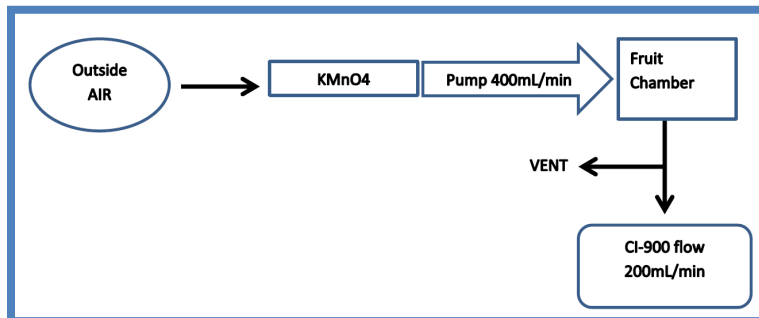

Figure 14: Set-up for fruit chamber using (KMnO₄) to scrub ethylene from the outside air.
2. Connect experimental setup as shown in Figure 14.